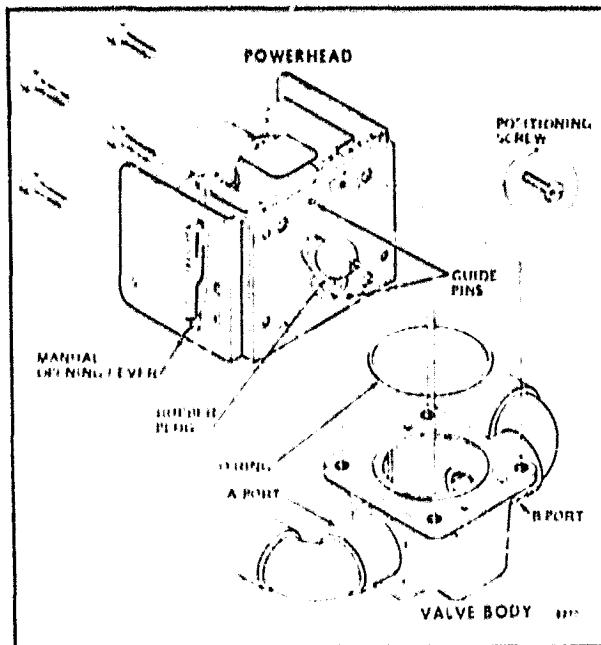

FIG. 3—POWERHEAD MUST BE ALIGNED SO THAT THE GUIDE PINS AND THE POSITIONING PIN IN THE POWERHEAD FIT THE HOLES IN THE VALVE BODY.
Each powerhead controls each valve body separately. To assemble a powerhead to a valve body, place an O-ring in the circular slot on the top of the valve body (Fig. 3). Assemble the powerhead to the valve body by placing the manual opening lever on the powerhead in the MAN. OPEN position.
- Align the powerhead by fitting the hex head screw on bottom of powerhead into the hole on top of valve body (see Fig. 3).